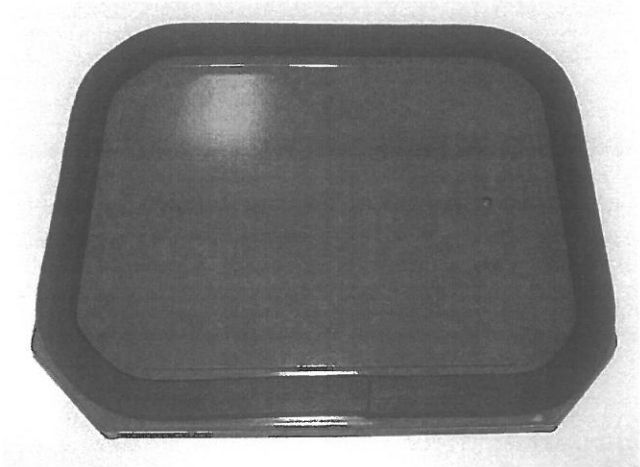

Fig. 2-1
- 3. Position the vacuum pad upside down, preferably 3 ft (0.9 m) above the ground or at a safe ergonomic height (Fig. 2-1).